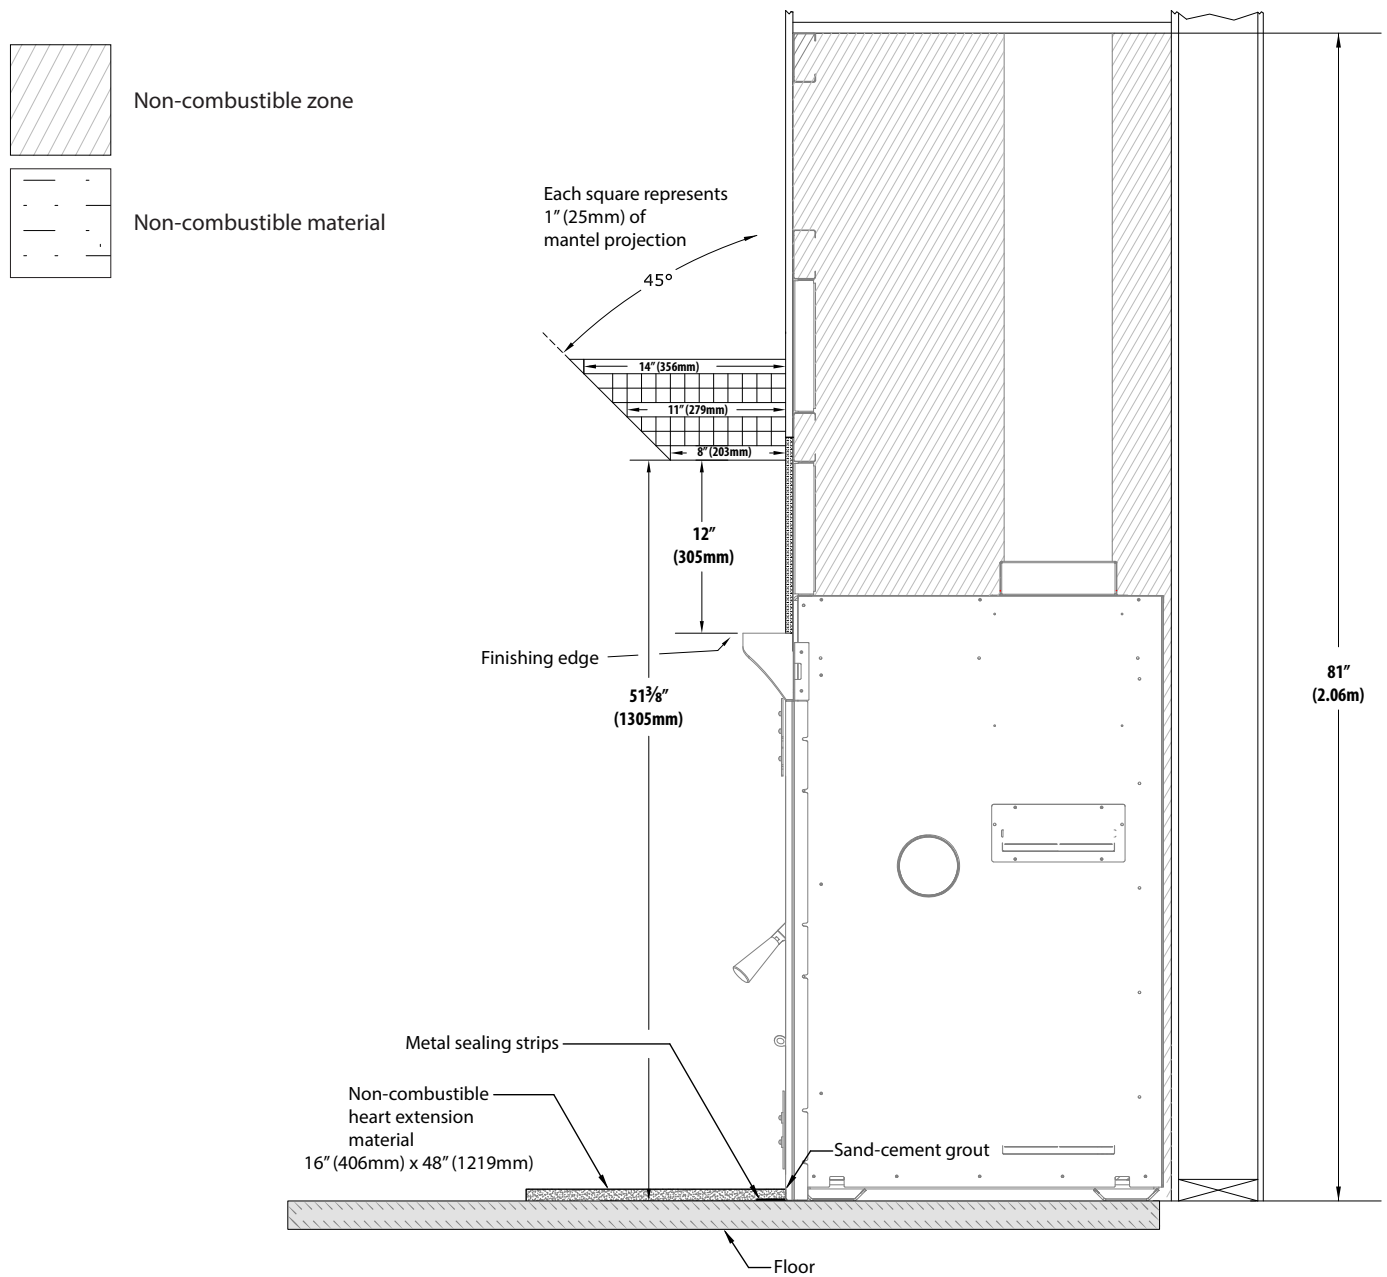

Figure 4.1, Combustible Mantel Requirements
- **Combustible Mantel Projections:** As referenced in Figure 4.1, the 8" (203mm) mantel can start 12" (305mm) above the top finishing edge. Mantel projections can increase 1" (25mm) of depth for every 1" (25mm) of height starting at the 8" (203mm) mantel.